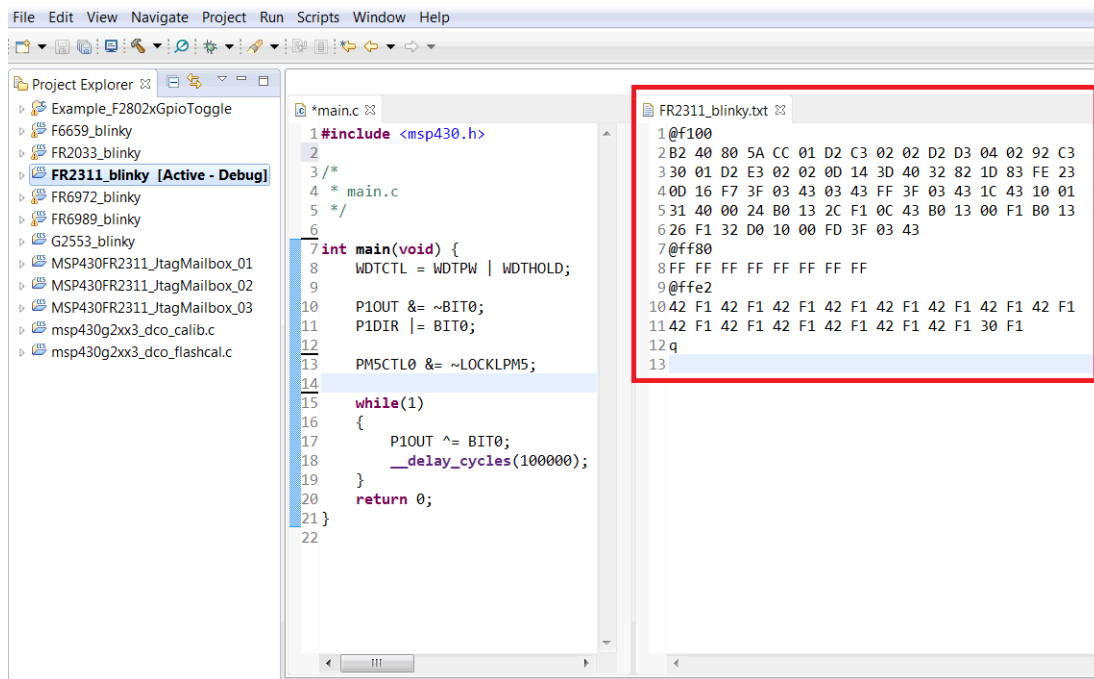

Figure 25. MSP430FR2311 TI-TXT Hex Format Firmware Image
4. After the project is built, the .txt containing the full firmware image is created. Figure 25 shows this file.